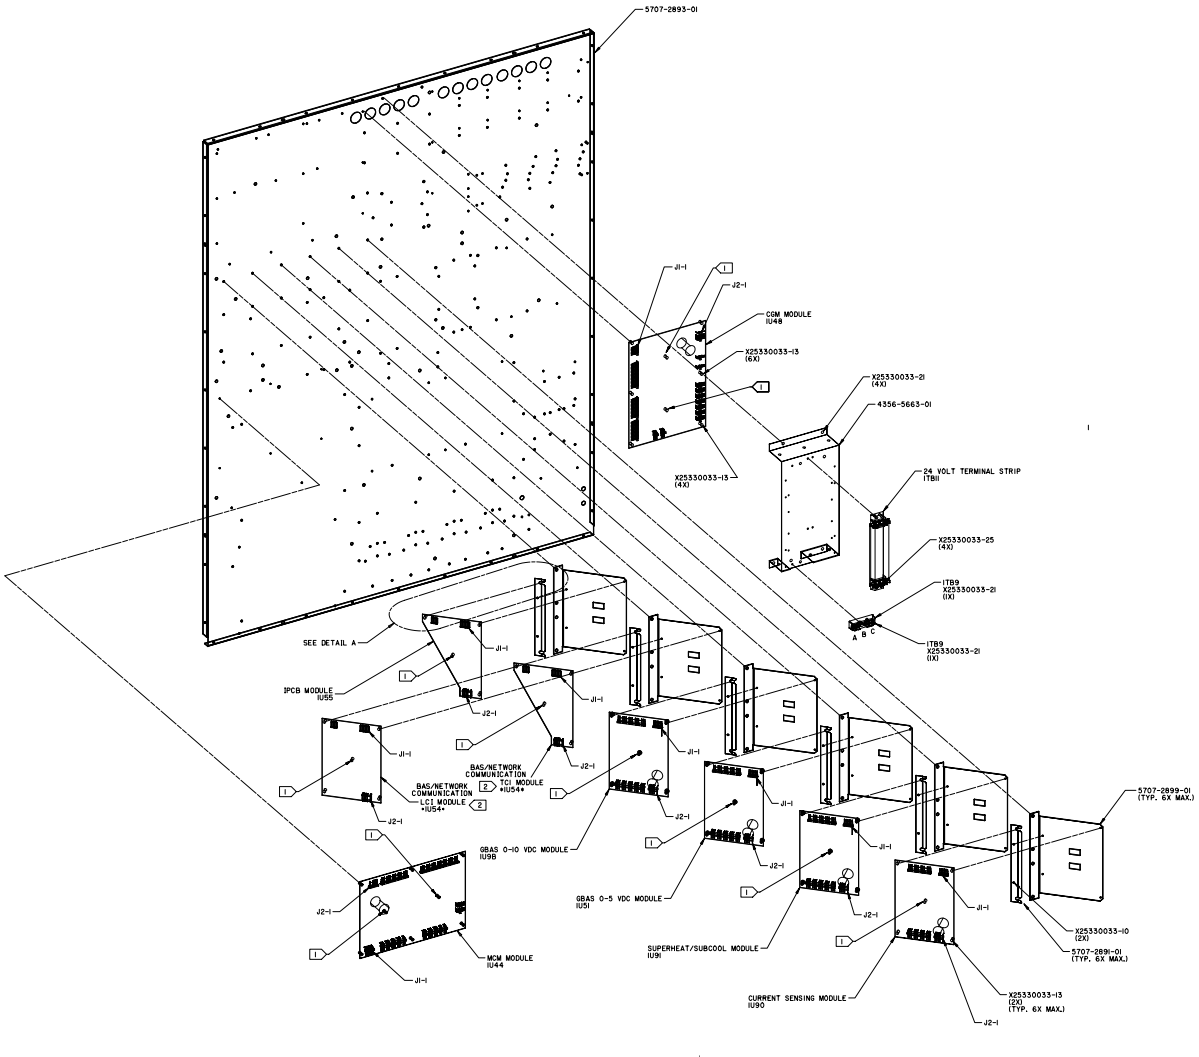

Figure 2 40-60 Ton CGAF Units
2. Using 3 #8-32 x 1/2 inch mounting screws from the kit, align the mounting holes in the mounting bracket up with the holes in the control panel mounting plate. Refer to Figure 1 and Figure 2 for proper orientation.